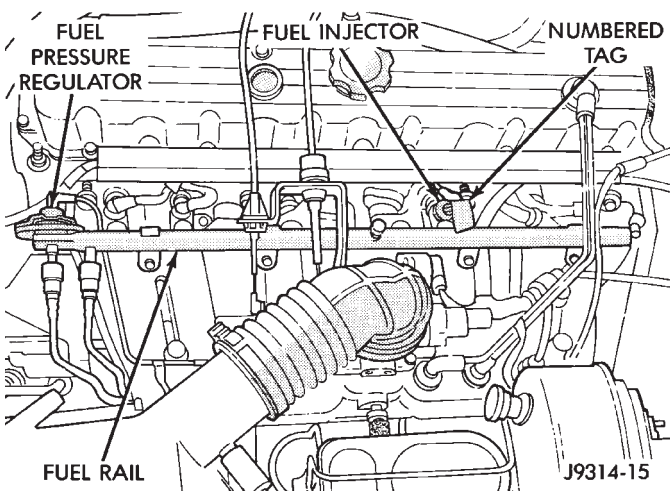

Fig. 7 Fuel Injector Harness—Typical
- (1) Remove fuel tank filler tube cap.
- (2) Disconnect the negative battery cable from battery.
- (3) Perform the Fuel System Pressure Release Procedure as described in the Fuel Delivery System section of this Group.
- (4) Remove and numerically attach a tag (if fuel injector is not already tagged), the injector harness connectors. Do this at each injector (Fig. 7).
- (5) Disconnect vacuum line from fuel pressure regulator (Fig. 7).
- (6) Disconnect fuel supply line from fuel rail and the fuel return line from fuel pressure regulator (Fig.